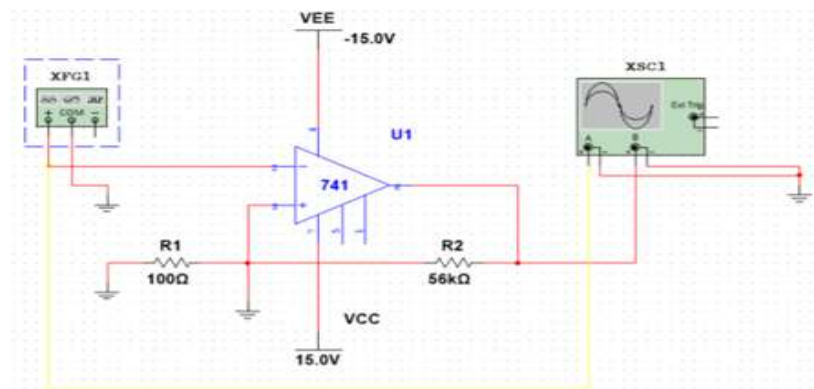
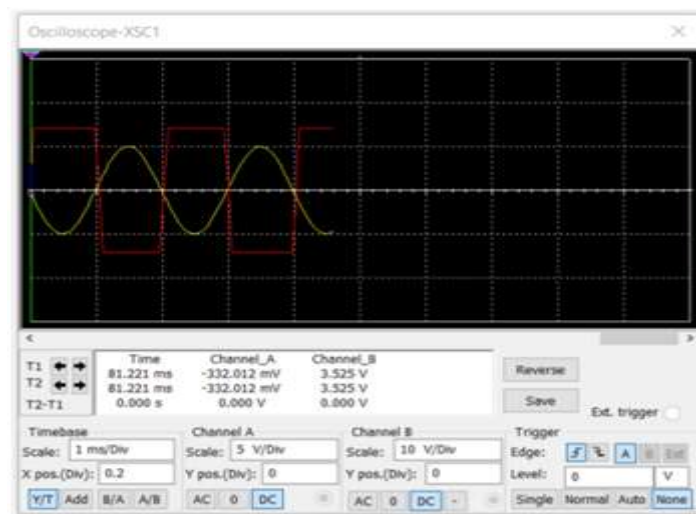

Figure 9: Schmitt Trigger Circuit
Figure 10: Output waveform of the Schmitt Trigger
6. Sample analog circuit is Figure 9 and its output is shown in Figure 10.